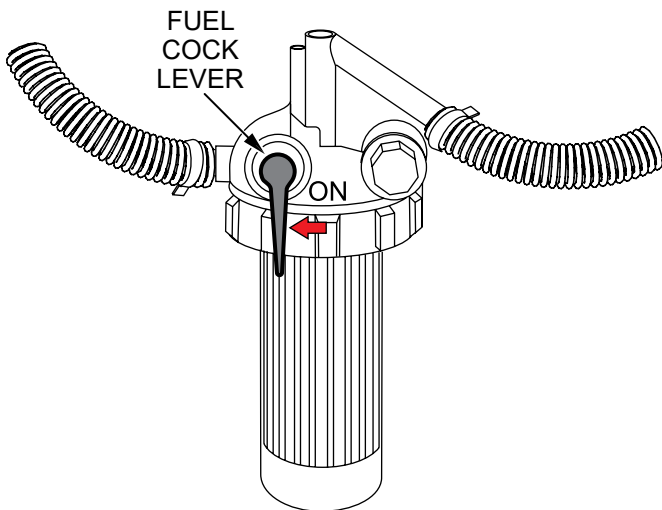

Figure 27. Fuel Cock Lever (ON)
2. Open the generator door and place the **fuel cock lever** (Figure 27) in the **ON** position.